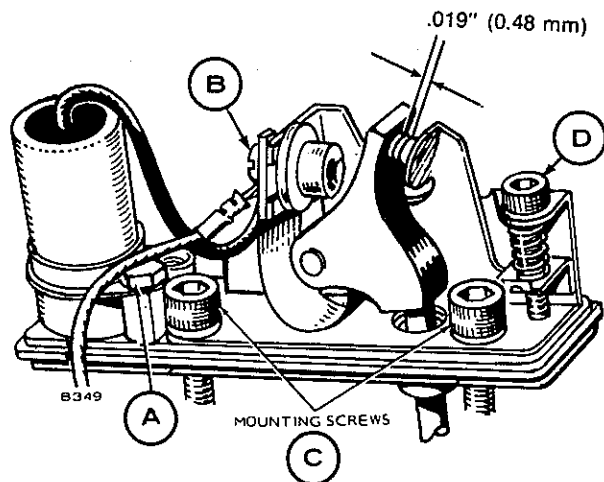

FIGURE 10-33. BREAKER POINT ADJUSTMENT
3. Remove condenser (screw A) and detach condenser lead and coil lead (screw B), Figure 10-33.
4. Remove two Allen screws (C) and lift breaker assembly from engine.
6. Using Allen wrench at screw (D) adjust point gap at .019 inch (0.48 mm) using a clean, flat thickness gauge.